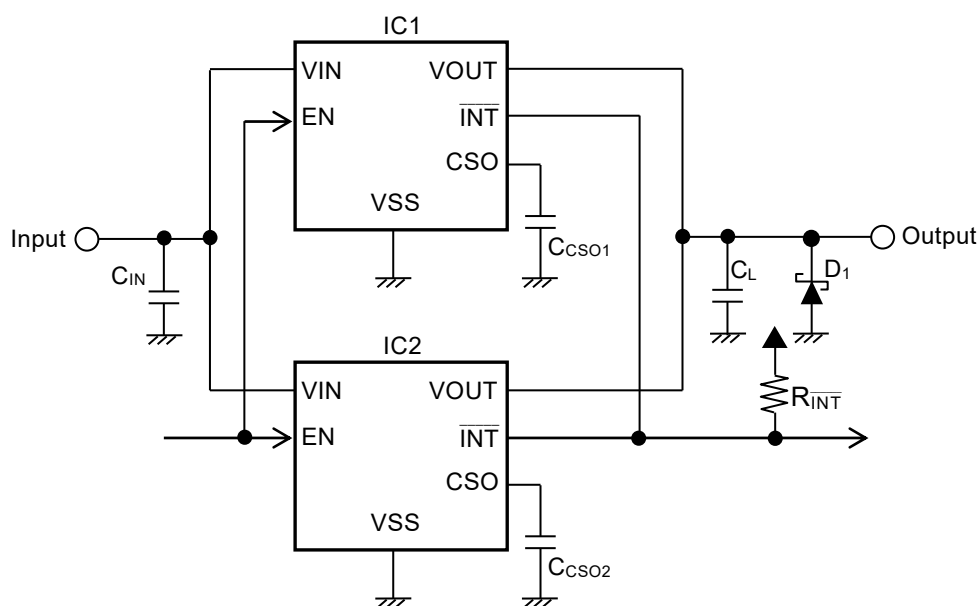

Figure 15
Figure 15 shows a connection diagram of two ICs operated in parallel. A parallel connection can double the output current.
By connecting n^{*1} number of ICs in parallel, as shown in **Figure 15**, the output current can be multiplied by n times. When n number of ICs with the same set limit current is connected in parallel, the overall on-resistance ($R_{ON,n}$) becomes $R_{ON,n} = R_{ON} / n$ and the overall limit current ($I_{LIM,n}$) becomes $I_{LIM,n} = I_{LIM} \times n$.
2. As shown in Figure 15, the capacitor for stabilizing the input (C_{IN}), the capacitor for stabilizing the output (C_L) and the protection Schottky-barrier diode (D_1) can be shared, but the ICs should be placed close together and C_{IN} , C_L and D_1 should be located as close to the IC connection pins as possible.